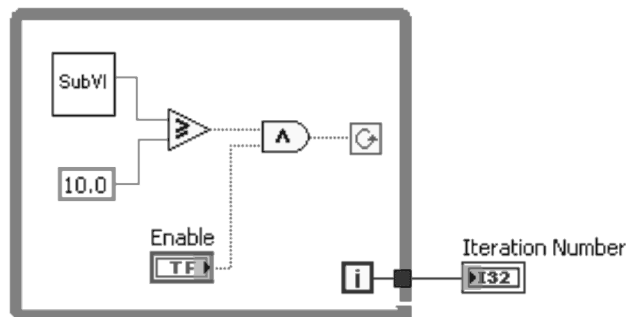

**Figure 4.8** Example 4.2: Front panel and block diagram to display numeric indicator.
**Example 4.2:** Create a VI to display the numbers 1 to 10 in a Numeric Indicator using a While Loop. Use the conditional terminal *Stop if True* as in Figure 4.8.
If you place the terminal of the Boolean control outside the While Loop as shown in Figure 4.8(b), and the control is set to FALSE if the conditional terminal is *Stop if True* when the loop starts, you cause an infinite loop. You also cause an infinite loop if the control outside the loop is set to TRUE and the conditional terminal is *Continue if True*. Changing the value of the control does not stop the infinite loop because the value is only read once, before the loop starts. To stop an infinite loop, you must abort the VI by clicking the *Abort Execution* button on the toolbar.